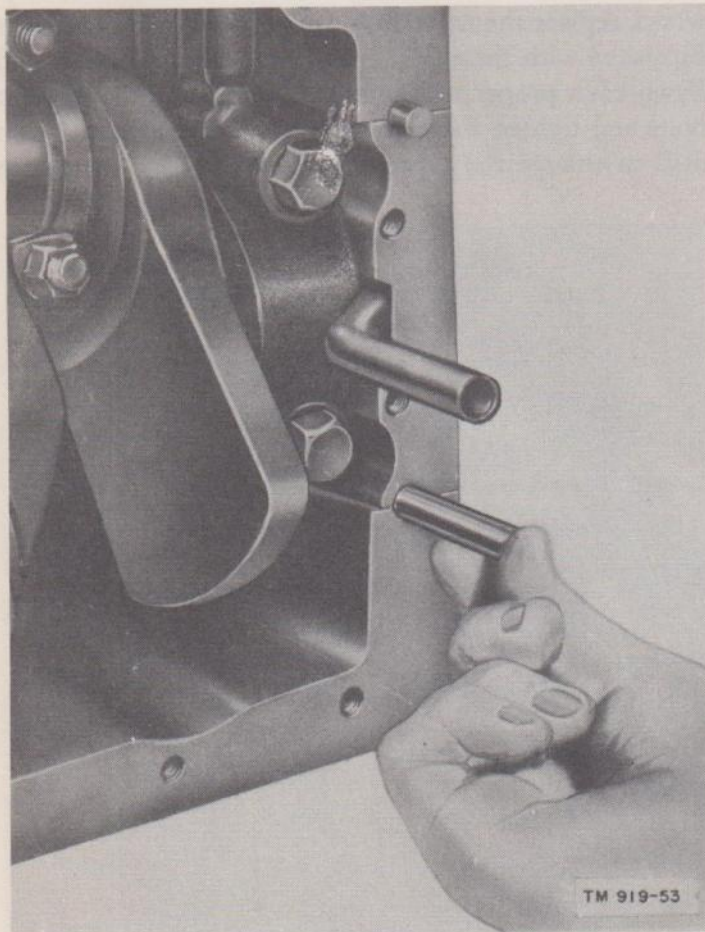

Figure 53. Installing rear main bearing cap packing.
(9) Insert rubber packings in the block as shown in figure 53. The packings will protrude approximately 1/4 inch from the block. When the oil pan is installed, it will force the packing tightly into the holes.
(10) When installing a new crankshaft or flywheel, replace the tapered dowel bolts with straight bolts furnished with these parts. Assemble the crankshaft and flywheel in proper relationship. Then install the straight bolts and tighten them securely. Next use a 35/64-inch drill to enlarge the tapered holes. Ream the holes with